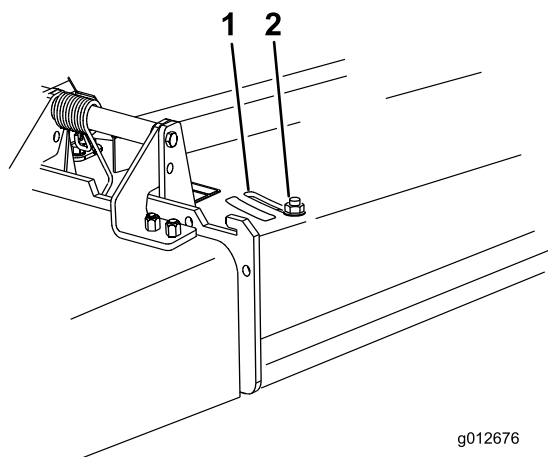

Figure 19
3. To adjust the baffle, loosen the nut (Figure 19).